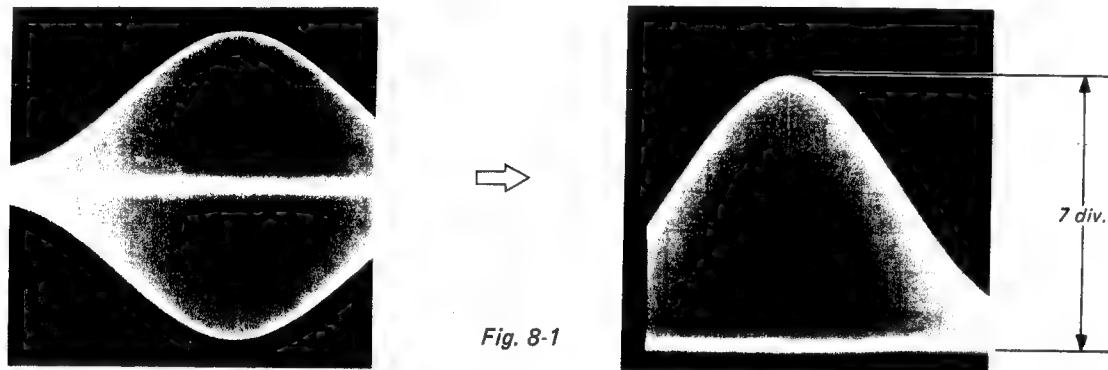

Fig. 8-1
3. Make the V/dw of oscilloscope into VARIABLE, and match the upper section of waveform to 7 div as shown in Fig. 8-1.